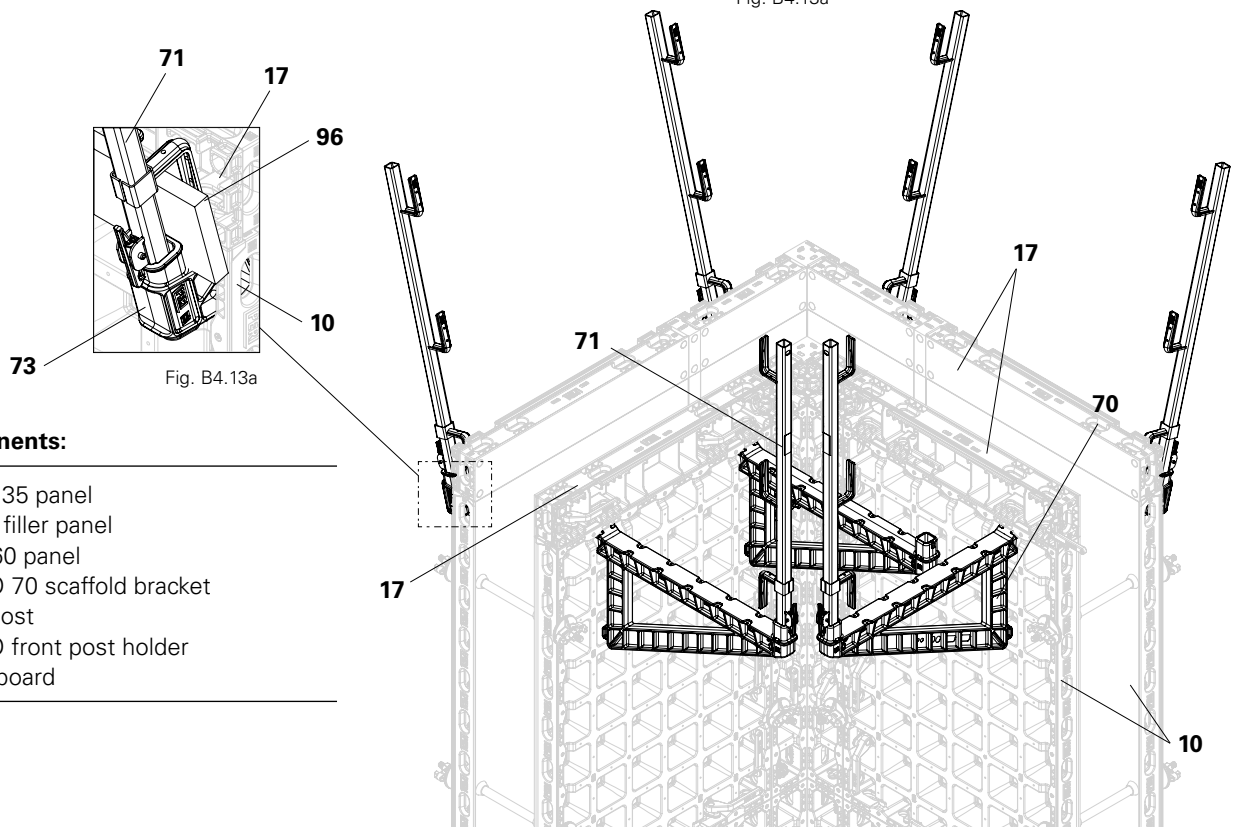

Fig. B4.13
If DFP filler panels (17) have been set up as height extensions, mount the DUO 70 scaffold bracket (70) and DUO front post holder (73) on the uppermost DP 135 (10) or DP 60 (18) panel. (Fig. B4.13)